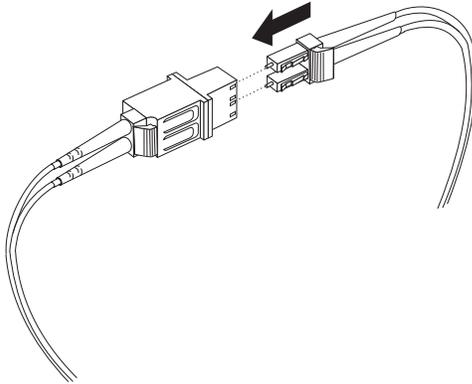

Figure 25. Connecting an LC-LC cable into the LC-SC cable adapter
4. Carefully insert the other end of the LC-LC cable into the LC connector end of the LC-SC cable adapter as shown in Figure 25 on page 28. Push in the connector until it clicks into place.